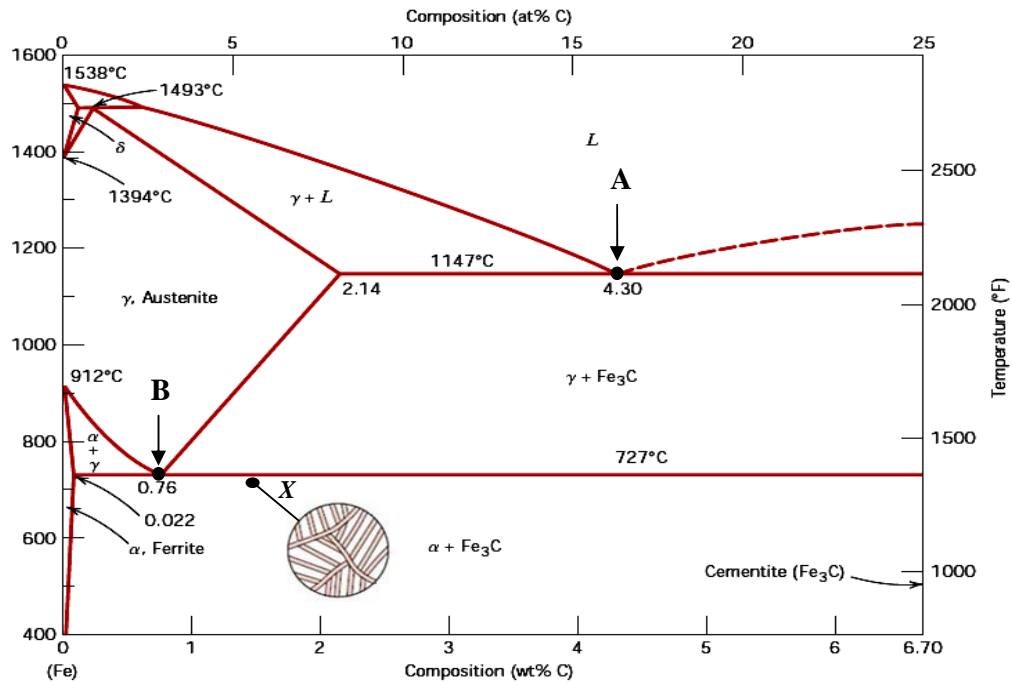

Figure 1. Fe – C Phase Diagram
- a) State **TWO (2)** advantages of the gray cast iron and sketch the microstructure. (4 marks)
**INSTRUCTION: Answer TWO (2) questions only**
- a) State **TWO (2)** effects of hydrogen in Carbon Steel. (4 marks)
- b) By referring to the Fe – C phase diagram in Figure 1, answer the following: